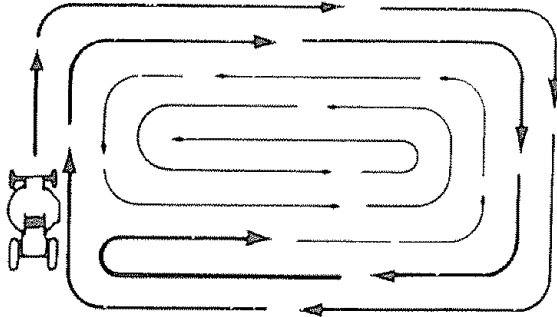

FIGURE 9
- d. When mowing large areas (Fig 9), start by turning to the right so that the clippings will discharge away from shrubs, fences, driveways, etc. After two or three rounds, mow in the opposite direction making left hand turns until finished.